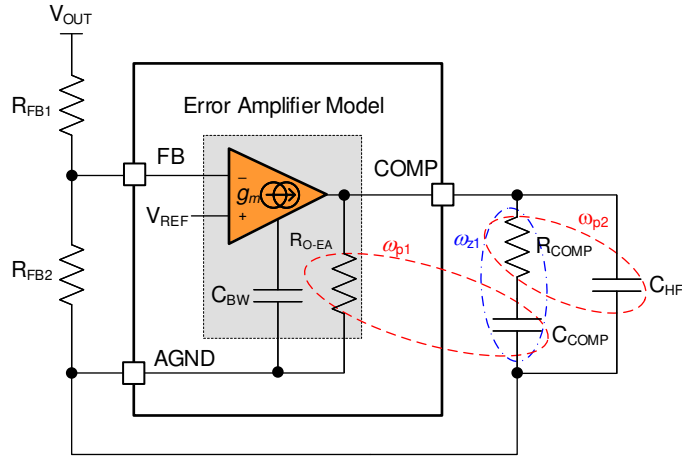

图 9-3. Error Amplifier and Compensation Network
图 9-3 shows a Type-II compensator using a transconductance error amplifier (EA). The dominant pole of the EA open-loop gain is set by the EA output resistance, R_{O-EA} , and effective bandwidth-limiting capacitance, C_{BW} , as shown in 方程式 28.